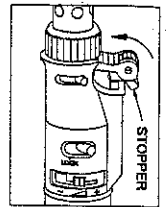

figure 2
- a. First, turn the CHILDREN RESISTANCE LOCK upward with thumb till the STOPPER on the Lock clears out of the cover of the tool unit and hold it. (Please see figure 2)